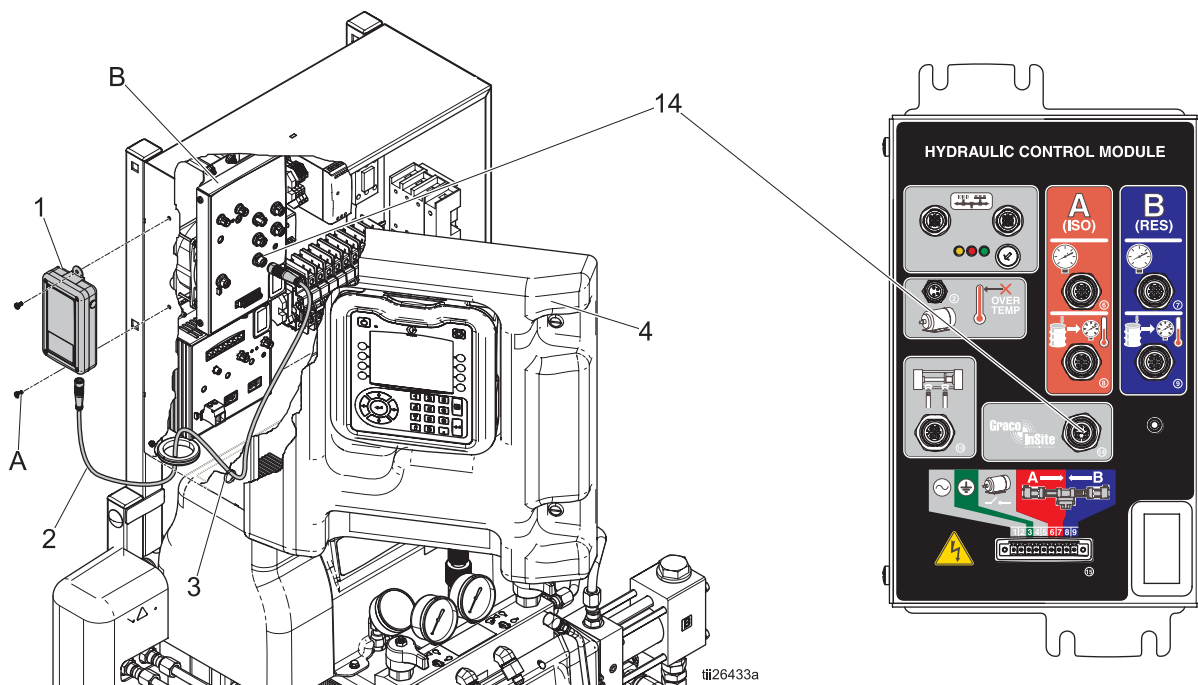

FIG. 2: Install Cellular Module
1. Use two bolts (A) to secure cellular module (1) to electrical enclosure. See FIG. 2.
2. Connect 4-pin end of cable (2) to cellular module (1) connector.
3. Route cellular module cable (2) through wire tie (3) to MCM (B). Secure with wire ties (3) as needed.
4. Connect other end of cellular module cable (2) to MCM (B) connector 14.
5. Place Graco InSite label (4) on front shroud as shown.
3. Route cellular module cable (2) through wire tie (3) to HCM (B). Secure with wire ties (3) as needed.
5. Place Graco Insite label (4) on front shroud as shown.